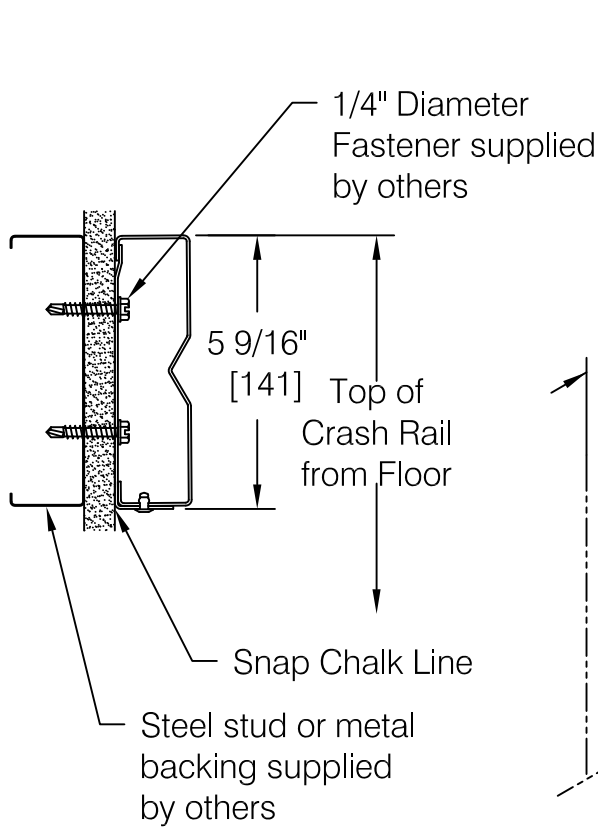

fig 1
Step 1: Determine top of crash rail height and snap a chalk line 5 9/16" below to locate bottom of mounting brackets, see **fig 1** and **fig 2**.